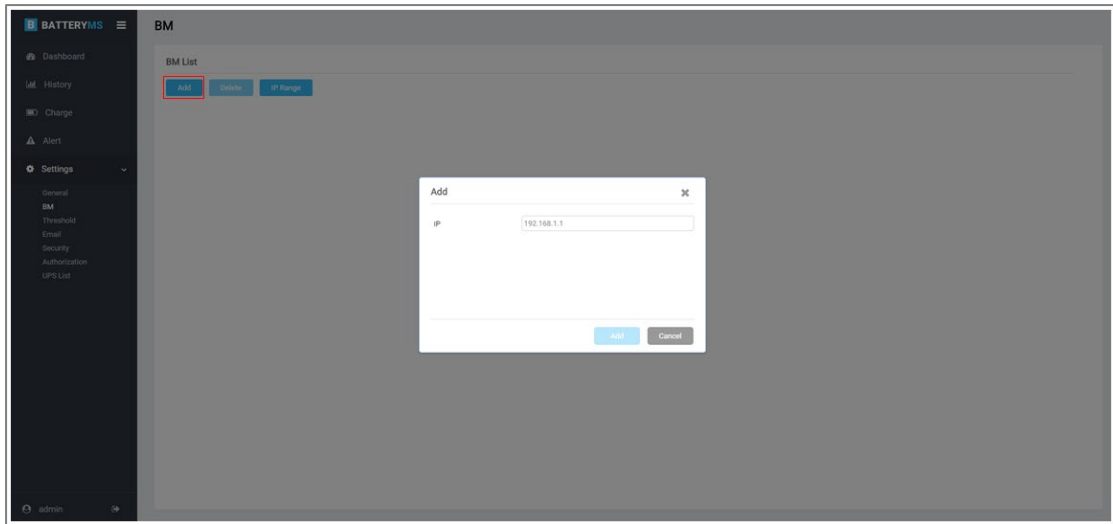
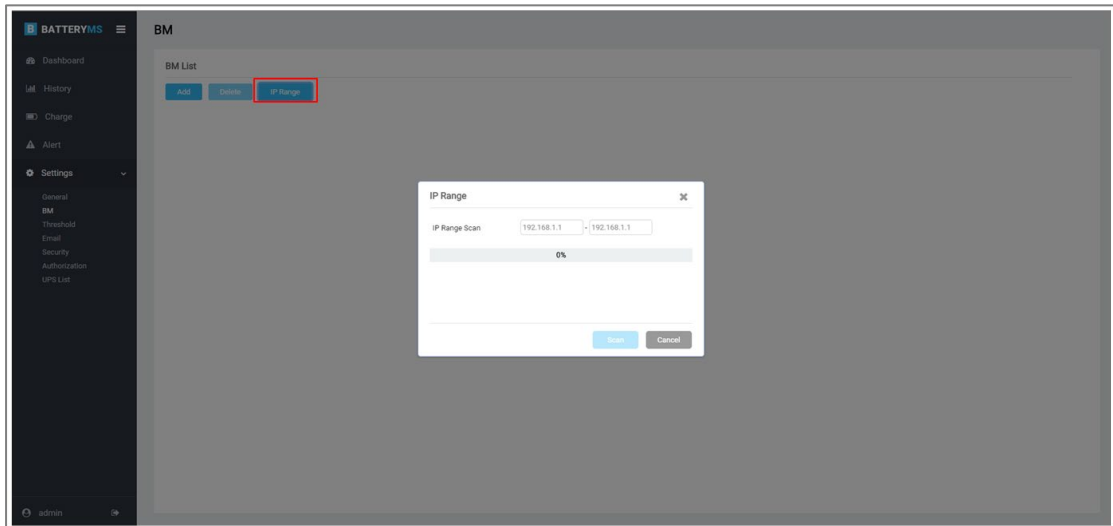

Figure 3.4 Add function on BM page
Figure 3.5 IP Range function on BM page
2. Select **Add** to add a BM by entering the BM device's IP (Figure 3.4), or select **IP Range** to add multiple BMs by scanning an IP range (Figure 3.5).